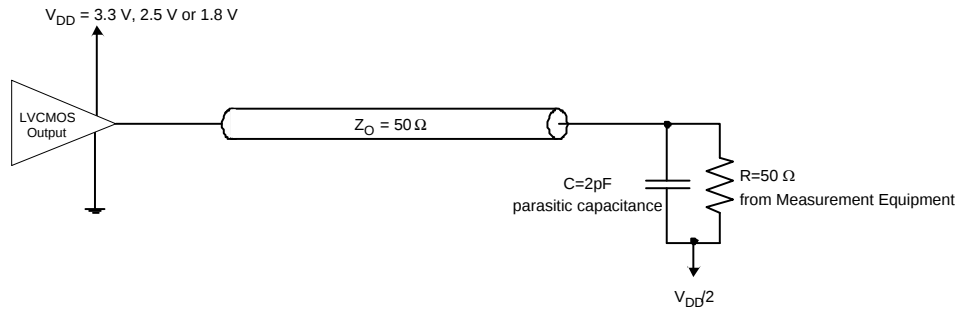

Figure 2. Test Load Circuit
5. All typical values are at respective nominal V_{DD} . For switching characteristics, outputs are terminated to 50 Ω to $V_{DD}/2$ (see Figure 2).